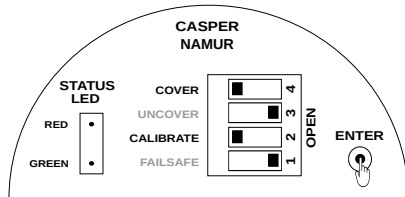

Figure 18: Setting Calibration
- Press and hold ENTER key, the STATUS LED will glow in RED color as shown in Figure 18.